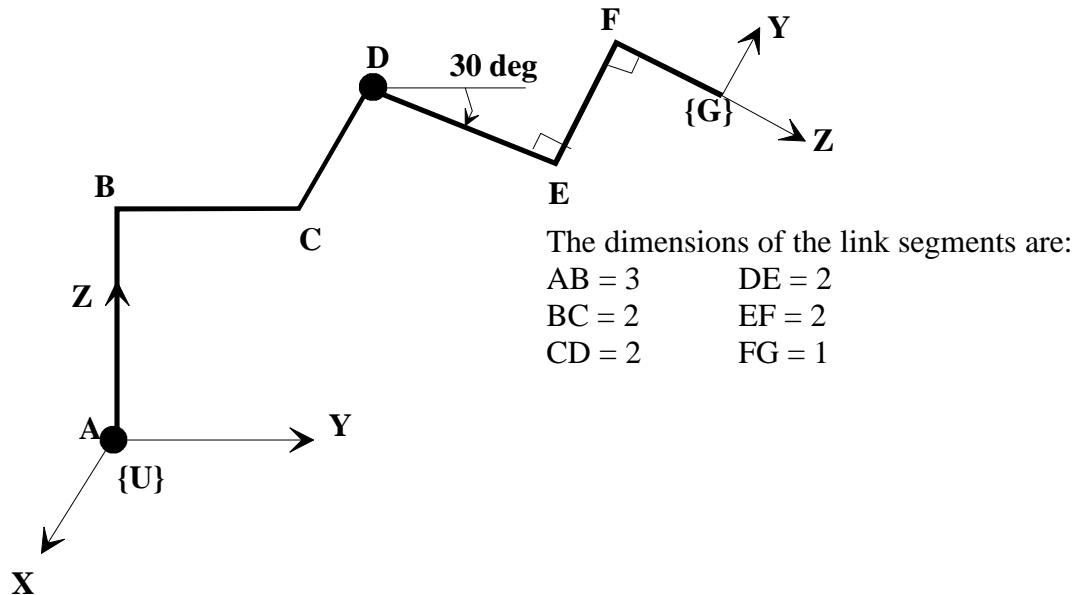

Figure 2
Q.2. (a) Figure 2 shows a manipulator with two rotational joints at locations A and D. The first moving link is link ABCD. ABC is on a plane and CD is normal to this plane. The first joint axis is along the z axis of Frame U. The second moving link is link DEFG (DEFG is on the same plane). The second joint axis is along link segment CD. When the two joints are moving, CD is always parallel to the xy plane of Frame U (horizontal plane) while planes ABC and DEF are always in a plane parallel to the z axis of Frame U (vertical plane). Frame G is attached to the second link as shown in Figure 2, with its yz plane always aligned to the plane defined by DEFG.